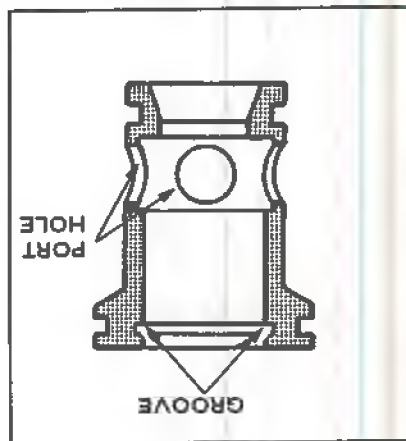
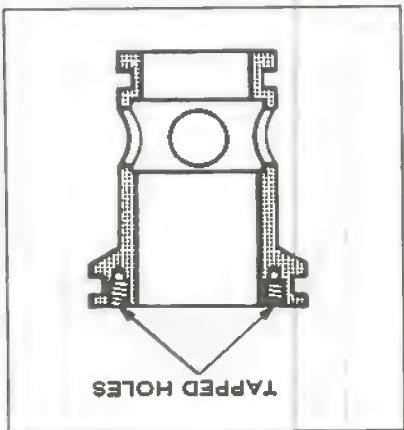

Figure 30a. Insert Sleeve
Figure 30. Insert Sleeve
4. Remove the sleeve from the manifold block. Apply a suitable extractor tool at the groove on smaller valve size (16mm through 32mm) pressure reducing inserts, or at the port holes for other inserts. See Figure 30. Apply the extractor tool to the two tapped holes on larger valve sizes (40mm through 63mm). See Figure 30a.